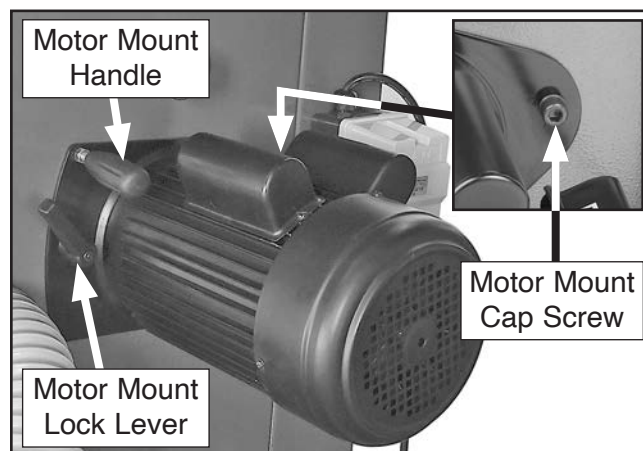

Figure 96. Location of V-belt removal controls.
4. Loosen motor mount cap screw and lock lever (see **Figure 96**).
5. Use motor mount handle (see **Figure 96**) to raise motor all the way, completely de-tensioning V-belt, then retighten lock lever to secure motor in UP position.